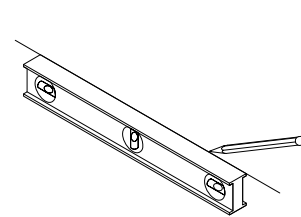

Fig. 1
1. Decide on the desired height for your shelf, then use a level to mark a straight line (fig 1).